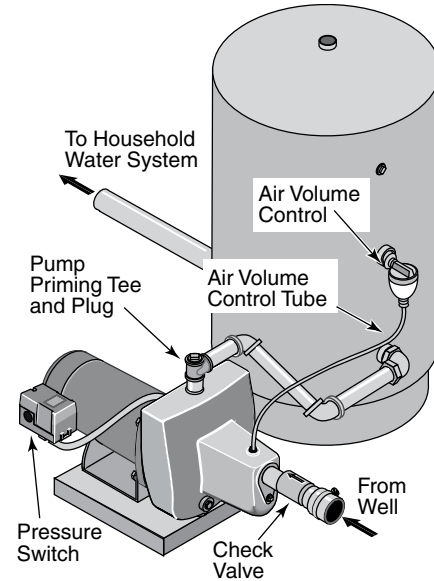

Figure 5: Standard Tank Connections
STANDARD TANK CONNECTION (Figure 5)
Step 1. Install one tee in the pump discharge port (see Figure 5).
- Step 3. Remove the 1/8" NPT pipe plug from the pump Air Volume Control (AVC) port (see Figure 5). Run tubing from the pump's AVC port (see Figure 5) to the port on the AVC mounted on the tank. See instructions provided with tank and AVC for details. AVC port location will vary, depending on your pump model (see exploded views, Page 10).